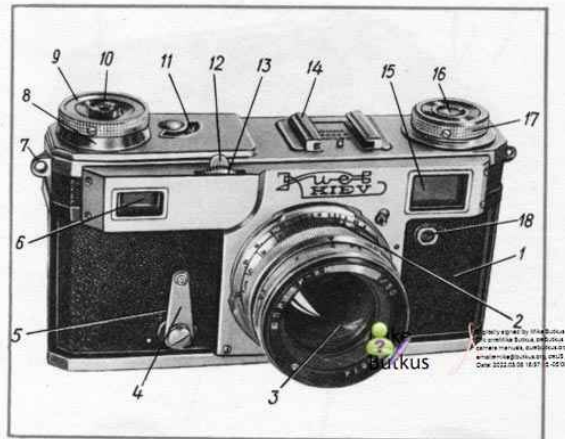
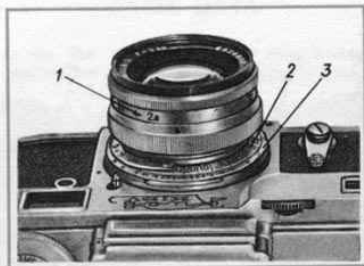
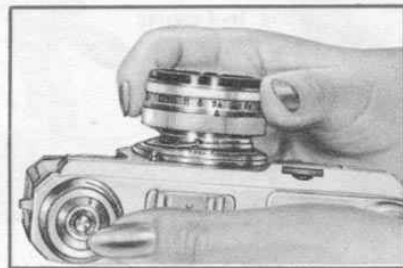

Fig. 2. Camera general view:
Fig. 3. "Jupiter-8M" lens:
Fig. 15. Lens diaphragming
The general view of the "Kiev-4A" camera is presented in Fig. 2, the "Jupiter-8М" lens is shown in Fig. 3.
5. Set indicator 16 (see Fig. 2) of film-in-use speed to the proper value by turning the scale button and finding in film rewind knob 17 the appropriate figure. Engraved on the scale are figures corresponding to the speed of the film in GOST and ASA units and coded symbols for colour film:
The diaphragm (Fig. 15) is set by turning ring 1 (see Fig. 3) which is fixed when the index is aligned with any value selected.
Focusing and range finding (Fig. 16) are effected by rotating disc 13 (Fig. 2), which is possible only after pressing lever 12 fixing the lens in the " $\infty$ " (infinity) position.
To this end, turn disc 13 (Fig. 2) till the desired mark on distance scale 2 (Fig. 3) is aligned with the index dot of scale 3.
View finding is effected through the range finder/view finder eyepiece while focusing the camera. Within the eyepiece field of vision you will see exactly the subject that will be obtained within the negative. Shutter release (Fig. 20) is effected by depressing smoothly shutter release button 10 (Fig. 2).
Self-timer cocking is effected by fully turning lever 4 (Fig. 2). For the procedure refer to Fig. 22.
To actuate the self-timer move button 5 (see Fig. 2) in the direction shown by the arrow on it. The time lapse offered by the self-timer before the shutter is released is within 9 to 15 s.